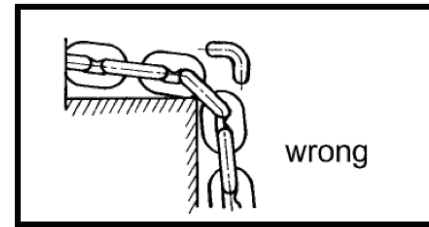

FIG 9
- Prevent the chain from dragging over sharp edges or corners. These will cause links to weaken, bend, or break, (FIG 9).